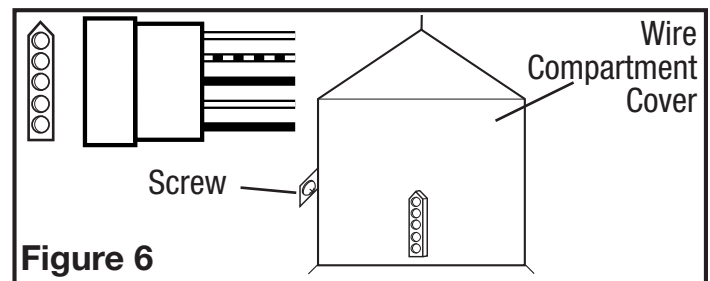

Figure 6
5. Plug the fan's quick connect motor cord into the receptacle located on the wire compartment cover. The cord will only fit one way into the receptacle (Figure 6).